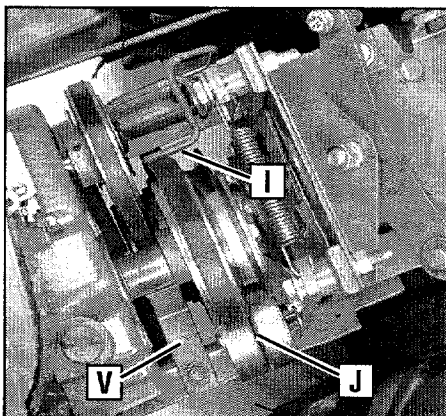
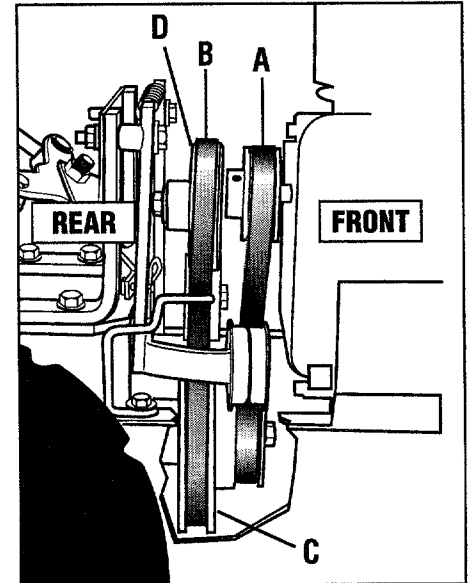
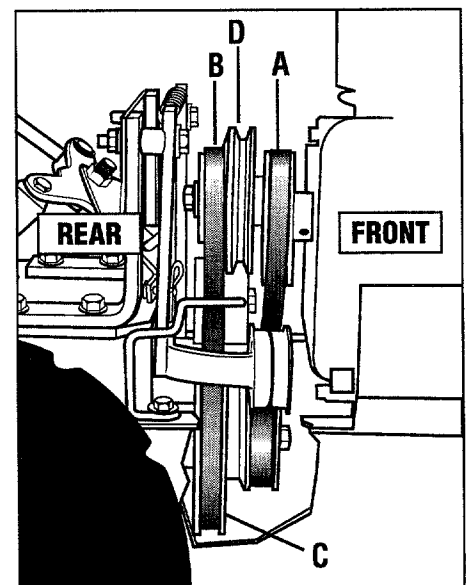
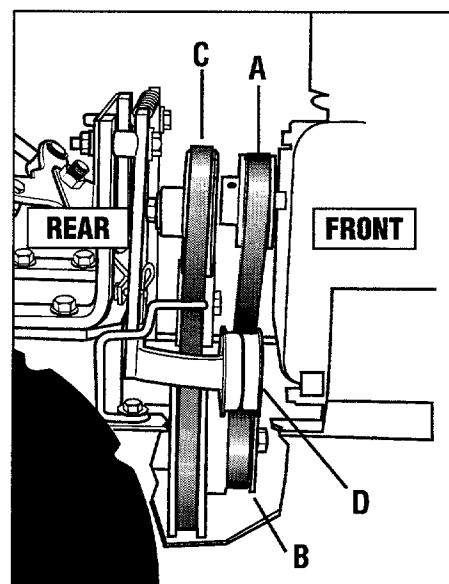

Figure 5-12: Top view of belts and pulleys.
Figure 5-16: Belt drive system – Pony model.
Figure 5-17: Belt drive system – Econo-Horse model.
Figure 5-19: Removing and installing reverse belt.
8. Replace the forward drive belt in the grooves of the engine drive pulley and the transmission (lower) pulley. Be sure the belt is to the inside of the wire formed belt guide (I, Figure 5-12) and to the inside of the forward drive idler pulley (J).
2. Remove the reverse drive belt (A, Figures 5-16 or 5-17) by following the "Removing the Reverse Drive Belt" instructions in this section.
3. On Pony models, move the forward drive belt (B, Figure 5-16) completely off the engine forward drive pulley (D) by moving it to the rear of the pulley. On the Econo-Horse model, move the forward drive belt (B, Figure 5-17) into the low speed groove (rear groove) of the engine forward drive pulley.
4. Slip the forward drive belt completely off the transmission drive pulley (C, Figures 5-16 or 5-17) by moving it to the front of the pulley.
2. Slip the forward drive belt down between the rear of the engine forward drive pulley (D, Figures 5-16 or 5-17) and feed the bottom half in between the engine and transmission pulleys (see Figure 5-18). Be sure that the belt is to the inside of the forward idler pulley and forward belt guide (see J and I, Figure 5-12).
3. Slip the forward drive belt down and over the front of the transmission pulley (C, Figures 5-16 or 5-17). NOTE: For additional working room, loosen the reverse belt guide (V, Figure 5-12) and twist it out of the way.
4. Put the lower half of the belt into the rear groove of the transmission pulley (C, Figures 5-16 or 5-17).
5. Put the upper half of the belt into the groove of the engine forward drive pulley (D, Figures 5-16 or 5-17).
IMPORTANT: Make sure that the forward drive belt is to the inside of the wire belt guide (I, Figure 5-12) and the forward idler pulley (J, Figure 5-12).
3. Slip the reverse belt off the engine reverse pulley (A, Figure 5-19). If necessary, work the belt off the pulley with your left hand while pulling the engine recoil starter rope with your right hand.
4. Push the upper half of the reverse belt downward to create slack in the belt. Then reach underneath the transmission and slip the belt off the front of the transmission pulley (B, Figure 5-19).
5. Pull the belt up and past the engine reverse pulley (A, Figure 5-19).
1. Slip the reverse belt down between the engine reverse pulley (A, Figure 5-19) and the engine forward drive pulley (C).
2. Loop the bottom half of the belt over the front of the transmission pulley (B, Figure 5-19) and seat the belt in the front groove of the pulley.
3. Place the belt to the inside of the reverse idler pulley (D, Figure 5-19) and the reverse belt guide (V, Figure 5-12). Then slip the upper end into the groove of the engine reverse pulley (A, Figure 5-19).
4. If the reverse belt guide (V, Figure 5-12) was loosened previously, center the belt guide on the belt and tighten the mounting screw securely.